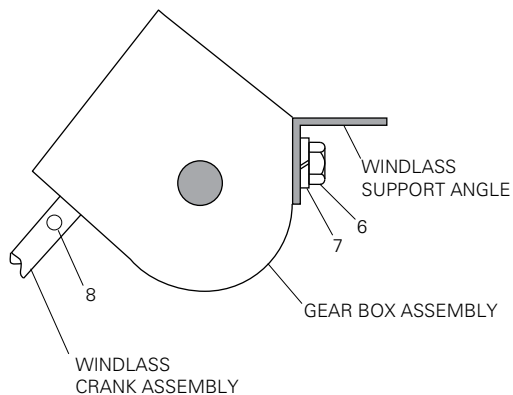

Figure 9. Secure the gear box to the windlass support angle.
4. Secure the back of the gear box to the support angle with two cap screws (Item 6) and two lockwashers (Item 7) as shown in Figure 9.